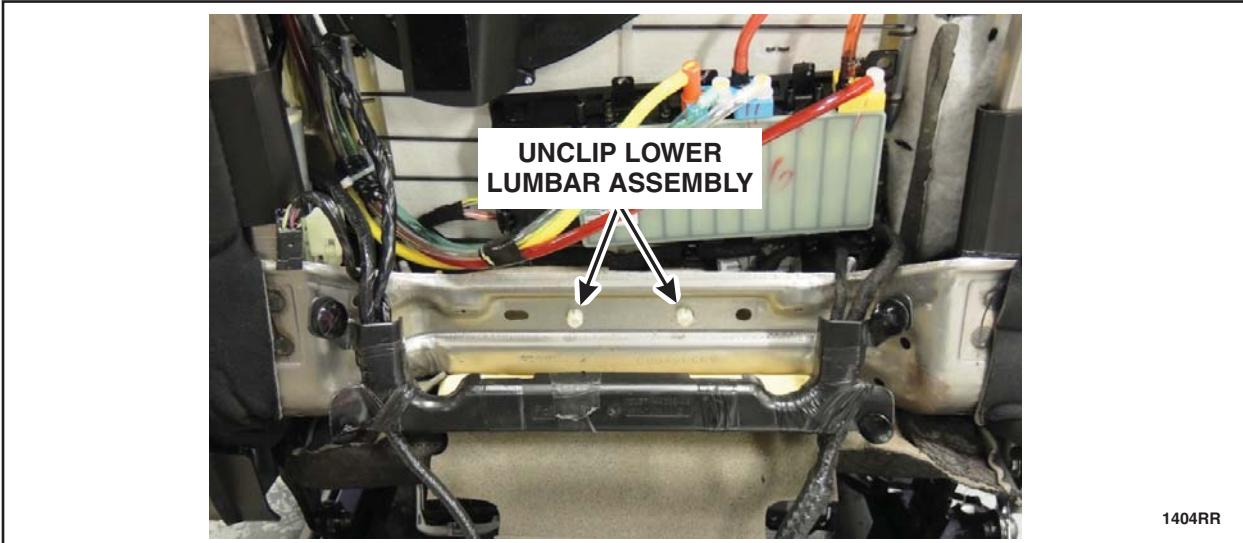

FIGURE 11
14. Unclip the lower lumbar assembly from the backrest frame. See Figure 11.